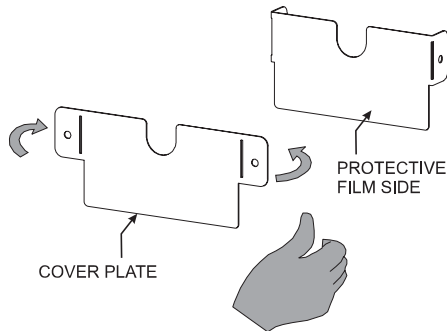

Figure 5
5. **For Grill Heads other than R3 Series, continue on to Step 6. For R3 Series Grill Heads:** Bend the tabs on the Post Cover Plate to 90° as shown in Figure 5. Two different size cover plates are included with the R3 Series Grill Heads. Choose the plate that will best fit your post.
6. **For R3 Series Grill Heads:** Slide the Post Cover Plate onto the front of the post. Slide the Upper Bracket onto the post. Secure the Post Cover Plate and Upper Bracket to the top of the square post using four #10 – ½ Self Drill screws for stainless steel posts and 10 x 1/2 Hex Head screws for black posts. See Figures 5 and 6.